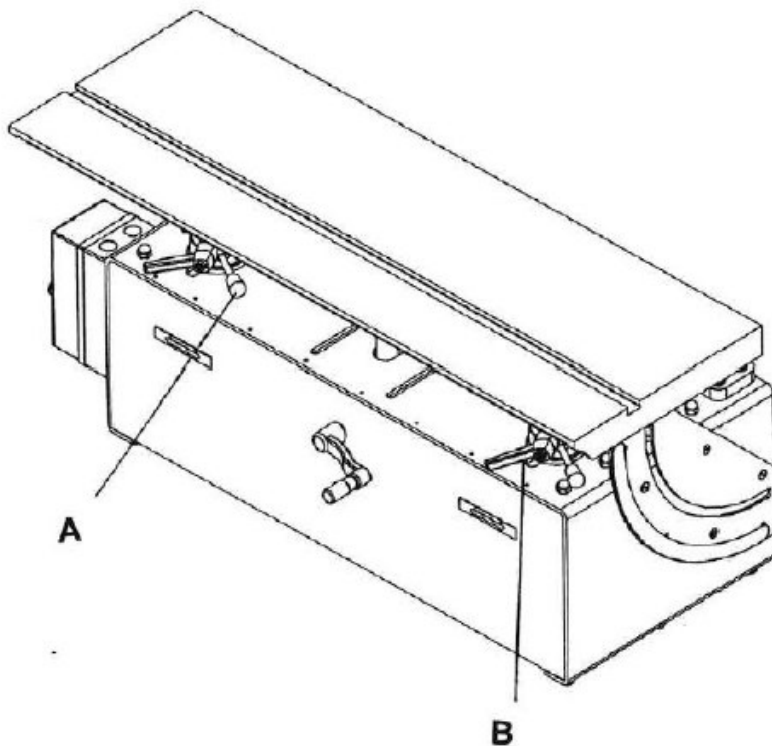

Fig.6-1: Adjust the work table
Step 1: Loosen the two adjustment levers (Pos. A, Fig. 6-1)) and (Pos. B, Fig. 6-1) on the right and left side.